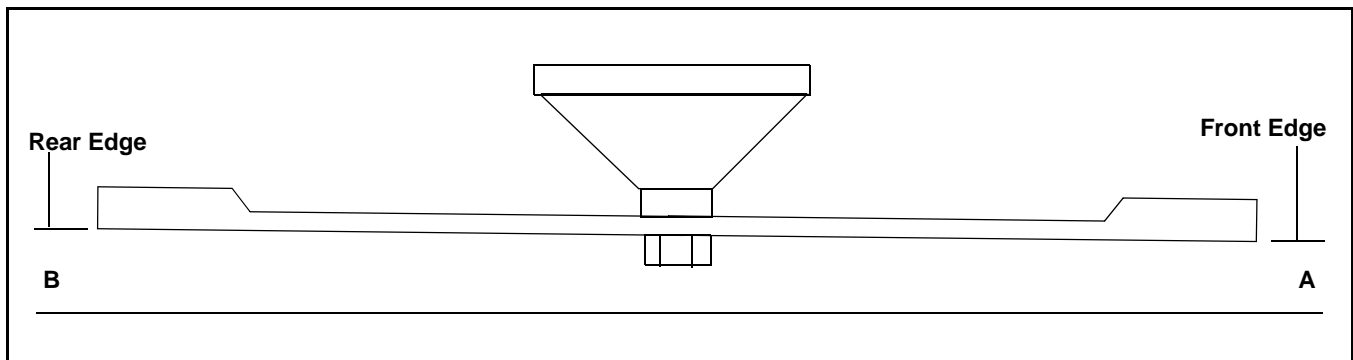

Figure 20
11. Measure and record the distance to the outermost edge of the right and left blade. (See Figure 20)